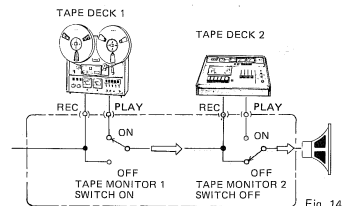

Fig. 14
1. As shown in Fig. 14, connect one tape deck each to TAPE 1 and 2 terminals.